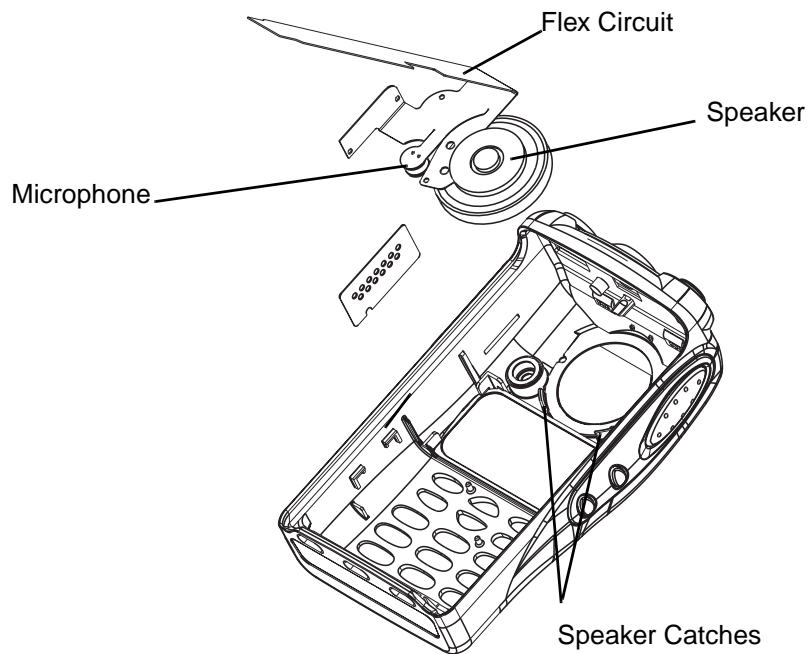

Figure 3-14 Removal Speaker-Microphone Assembly
5. Align the top notch in the speaker at the twelve o'clock position with the tab on the front cover. (See Figure 3-14.) Push down the speaker until the two bottom notches fit into the catches on the housing.